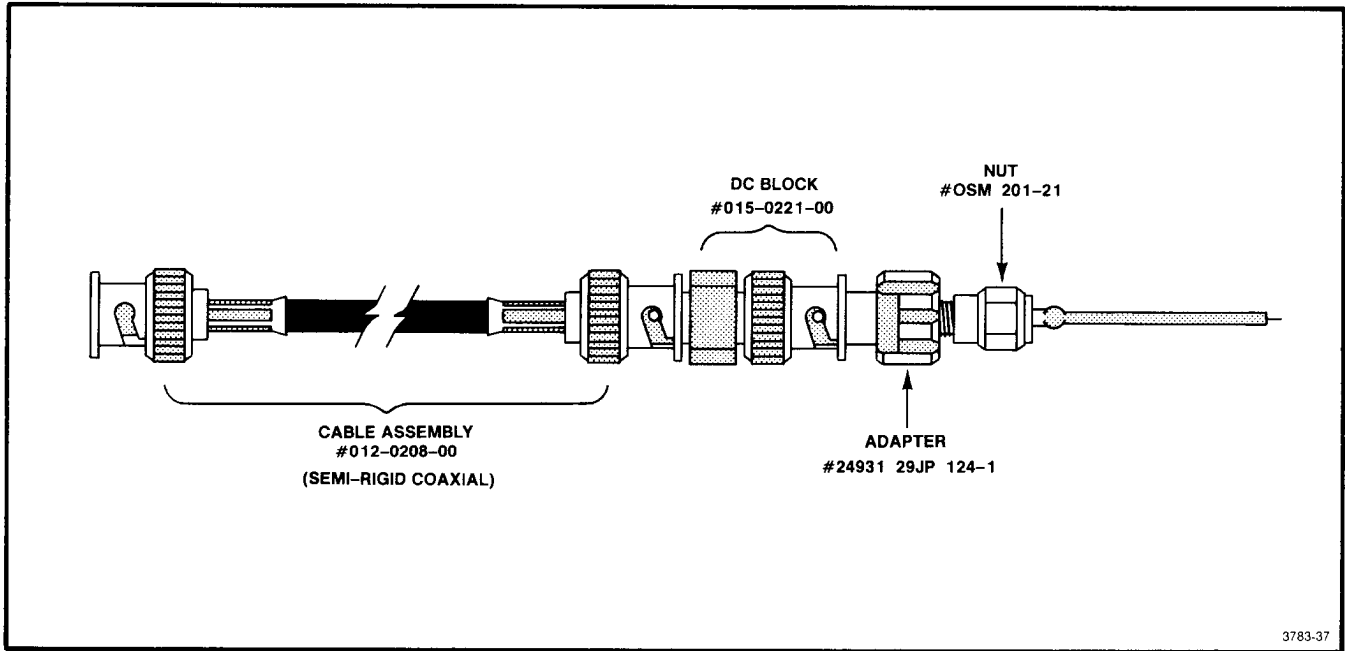

Fig. 4-20. Construction of a coaxial test probe for the 2182 MHz Phase-locked 2nd LO.
a. Use a probe, consisting of a short length of semi-rigid coaxial cable with a dc block (see Fig. 4-20), to connect the output of the reference mixer (C204) to the input of the test spectrum analyzer. Ground the outershield of the coaxial cable against the 2nd LO housing.
When making power measurements of microwave circuits at circuit board interfaces, use a coaxial probe with very little stray inductance (see Fig. 4-20). Ground the outer conductor of the probe to the circuit housing within a few tenths of an inch of the measurement point. Disconnect other circuit loads from the measurement point.